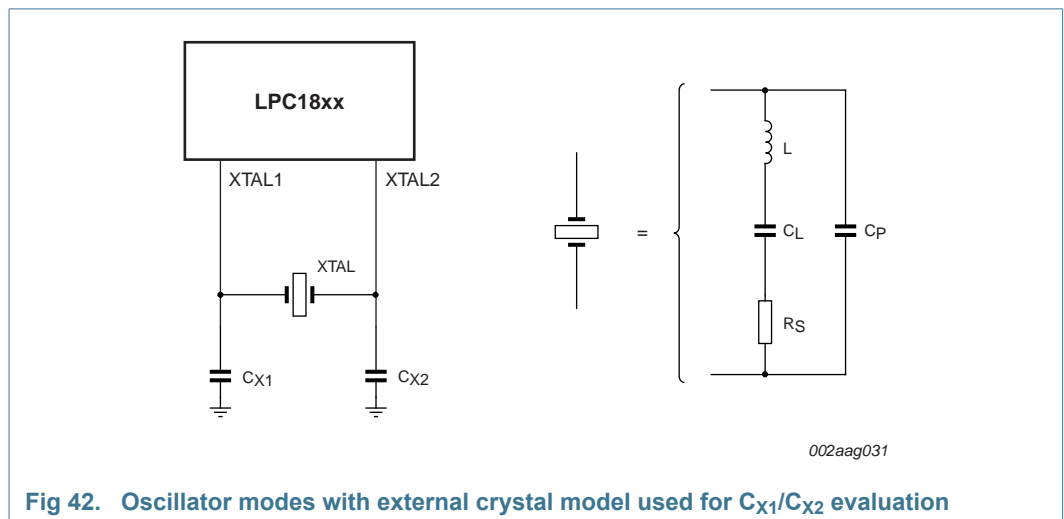

Fig 42. Oscillator modes with external crystal model used for  $C_{X1}/C_{X2}$  evaluation
- External components and models used in oscillation mode are shown in Figure 42, and in Table 38 and Table 39. Since the feedback resistance is integrated on chip, only a crystal and the capacitances  $C_{X1}$  and  $C_{X2}$  need to be connected externally in case of fundamental mode oscillation (L, CL and RS represent the fundamental frequency). Capacitance  $C_P$  in Figure 42 represents the parallel package capacitance and must not be larger than 7 pF. Parameters FC, CL, RS and CP are supplied by the crystal manufacturer.